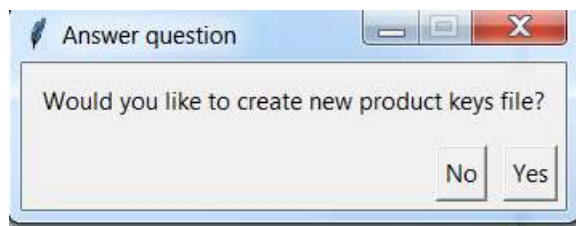

Figure 51: Question window to create new product keys file
4. First window after launching secure_image_config script is shown in Figure 51. By selecting “Yes” new product keys file is generated automatically.